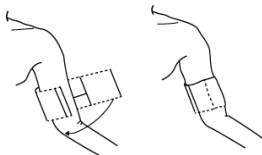

Figure 4.2.1 Cuff applying
2. Follow the method described below to apply the host to the patient's upper arm. (Figure4.2.1).